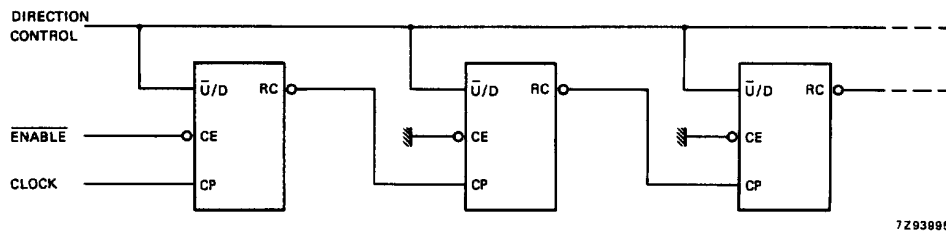

Fig.5 N-stage ripple counter using ripple clock.
Overflow/underflow indications are provided by two types of outputs, the terminal count (TC) and ripple clock (\overline{RC}). The TC output is normally LOW and goes HIGH when a circuit reaches zero in the count-down mode or reaches "9" in the count-up-mode. The TC output will remain HIGH until a state change occurs, either by counting or presetting, or until $\overline{U/D}$ is changed. Do not use the TC output as a clock signal because it is subject to decoding spikes. The TC signal is used internally to enable the \overline{RC} output. When TC is HIGH and \overline{CE} is LOW, the \overline{RC} output follows the clock pulse (CP). This feature simplifies the design of multistage counters as shown in Figs 5 and 6.
In Fig.5, each \overline{RC} output is used as the clock input to the next higher stage. It is only necessary to inhibit the first stage to prevent counting in all stages, since a HIGH on \overline{CE} inhibits the \overline{RC} output pulse as indicated in the function table. The timing skew between state changes in the first and last stages is represented by the cumulative delay of the clock as it ripples through the preceding stages. This can be a disadvantage of this configuration in some applications.
In Fig.7, the configuration shown avoids ripple delays and their associated restrictions. Combining the TC signals from all the preceding stages forms the \overline{CE} input for a given stage. An enable must be included in each carry gate in order to inhibit counting. The TC output of a given stage is not affected by its own \overline{CE} signal therefore the simple inhibit scheme of Figs 5 and 6 does not apply.